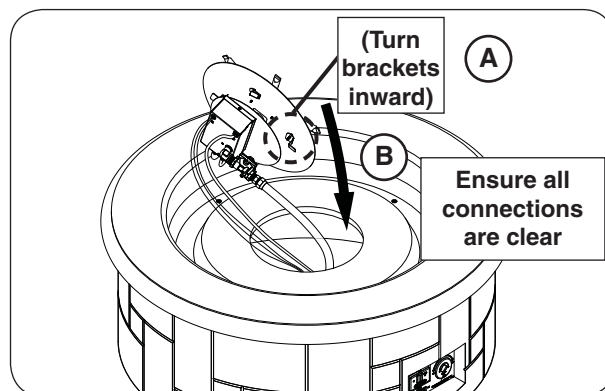

Fig. 31-2 Insert burner assembly
1. Ensure that the four burner brackets are turned inward, then insert the burner assembly (see Fig. 31-2, A-B).